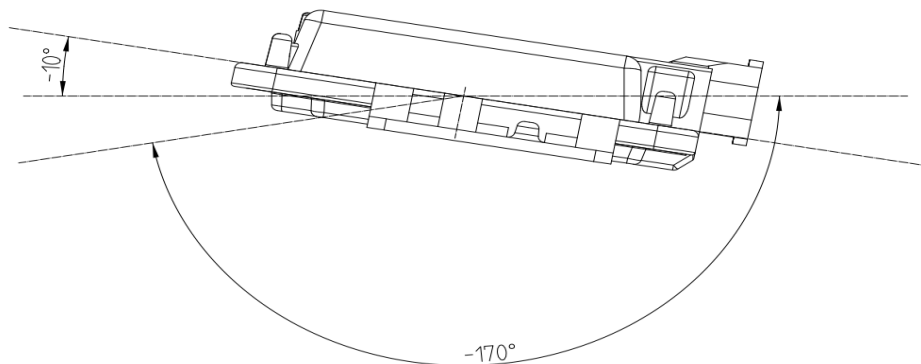

Figure 13 Horizontal Installation Angle
7. VCU should be installed in the horizontal and vertical position according to the connector downwards and maintain a certain angle to prevent water from entering the connector. In the horizontal direction, the recommended installation angle is -170° to -10° , as shown in Figure 13 below. In the vertical direction, the recommended installation angle is -170° ~ -10° , as shown in Figure 14 below.